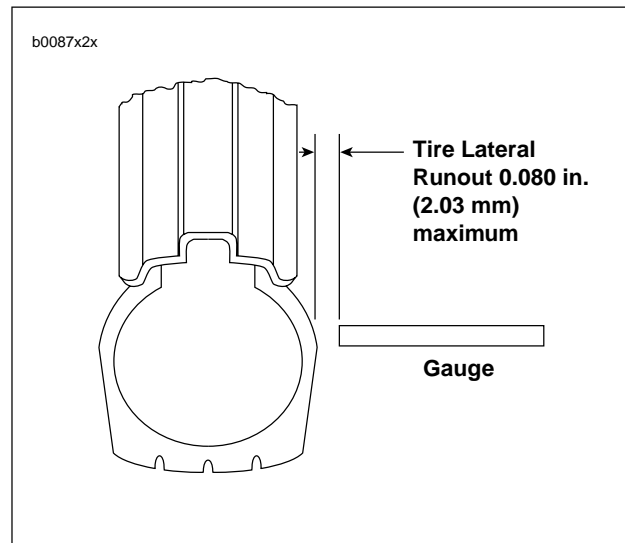

Figure 2-18. Checking Tire Lateral Runout
1. See Figure 2-18. Turn wheel on axle and measure amount of displacement from a fixed point to tire side-wall.